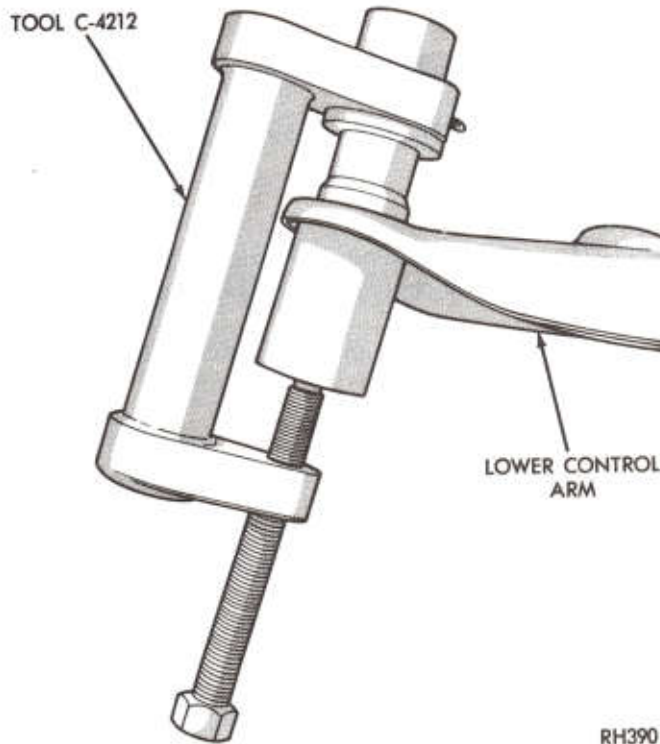

Fig. 5—Removing Lower Ball Joint
(1) Follow procedure outlined under "Coil Spring Removal".
(2) Remove ball joint seal. Use assembled Tool C-4212 to press ball joint out of lower control arm (Fig. 5).